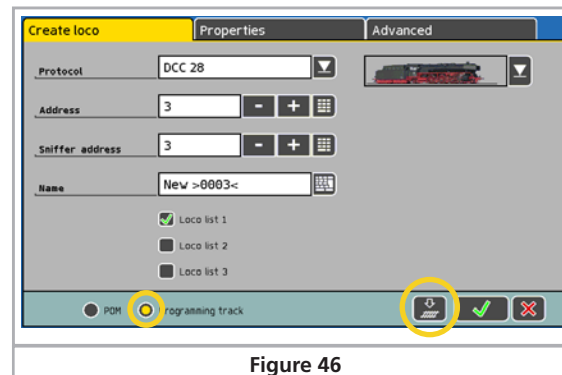

Figure 46
- Select the option „Programming on programming track“ (Fig. 46).